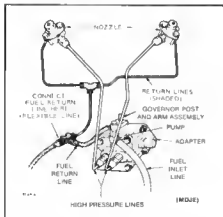

FIGURE 3-43 FUEL LINES TO INJECTORS
The Bryce or Kiki fuel injection system (Figure 3-43) is located near the center on the left side of the engine crankcase on MDJE Spec AB or later engines. The pump is mounted on an adapter casting and two lobes of the cam shaft operate the pump plungers, one plunger and cam lobe for each cylinder. The fuel is pumped at high pressure by the plungers through the delivery valves to the injection nozzles.
2. Remove fuel inlet and return line, Figure 3-43.